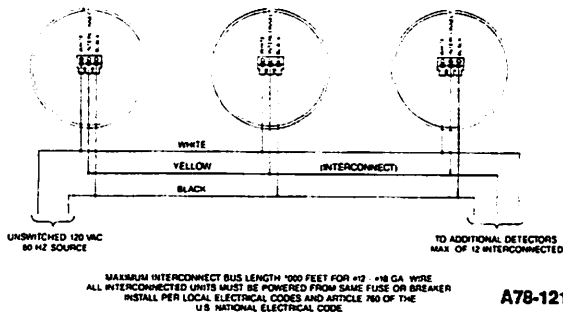

Figure 9: INTERCONNECTING 1839 AND 2839 SERIES DETECTORS
- BRK Models 1839N, 1839WN, 2839N and 2839WN may be interconnected. You may also interconnect any of these models with any other BRK 1839 series and 2839 series detectors. See item 3 below.
- Interconnect the detectors by connecting the interconnect wires on all the units together. See Figure 9.